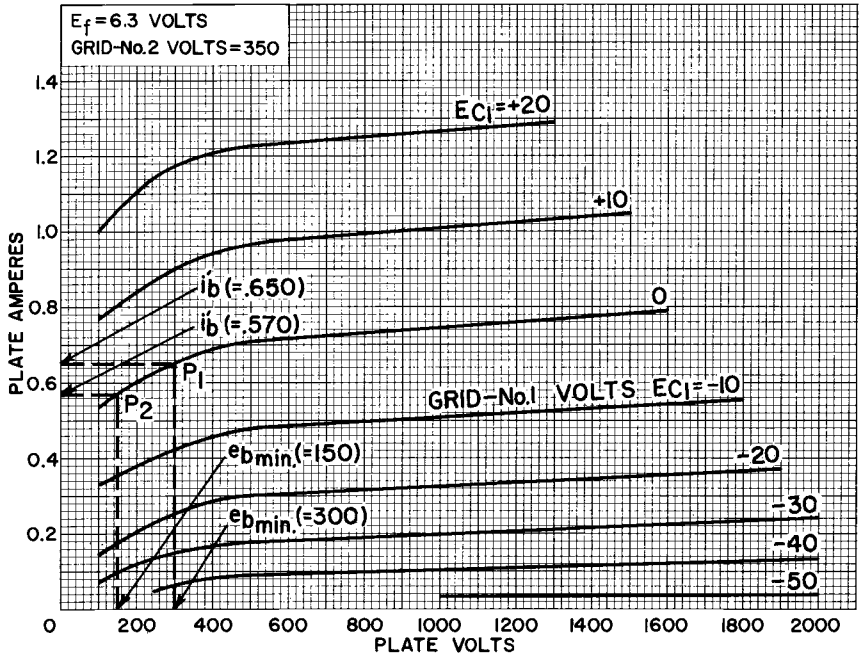
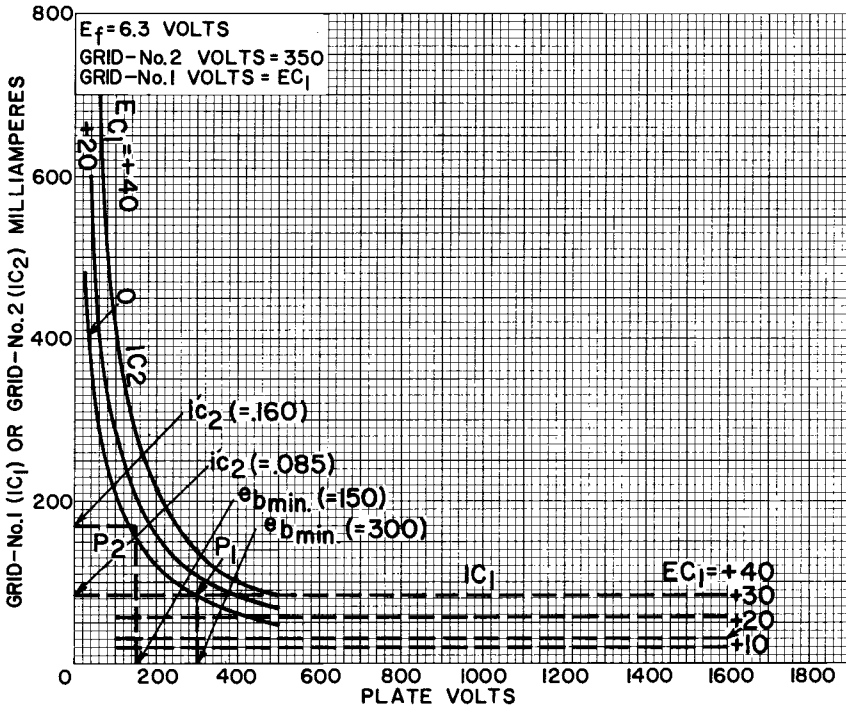

Figure 1: Typical plate characteristics of type 7094.
Figure 2: Typical characteristics for type 7094.
(1) The maximum plate voltage rating is 2000 volts.
(2) From the plate-characteristics curves shown in Figure 1 ($E_{c2} = 350$ volts), select a point PI on the knee of the curve for zero control-grid voltage. At this point, i'_b is 0.650 ampere and e_{bmin} is 300 volts. At the corresponding point on the grid-characteristics curves shown in Figure 2, i'_{c2} is equal to 0.085 ampere.
(4) $PD = (I_{bms}/4) (E_b + 3 e_{bmin}) = (0.217/4) [2000 + 3 (300)] = 157$ watts.
(5) $SI = E_{c2} i'_{c2}/4 = (350) (0.085)/4 = 7.4$ watts.